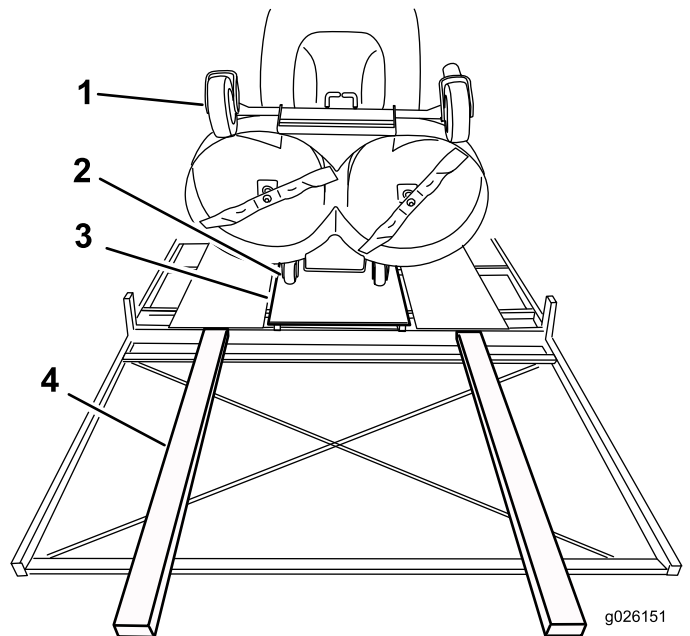

Figure 8
18. To form a ramp, place 2 long pieces of wood (2 x 4's) in front of each front-caster tire (Figure 8).